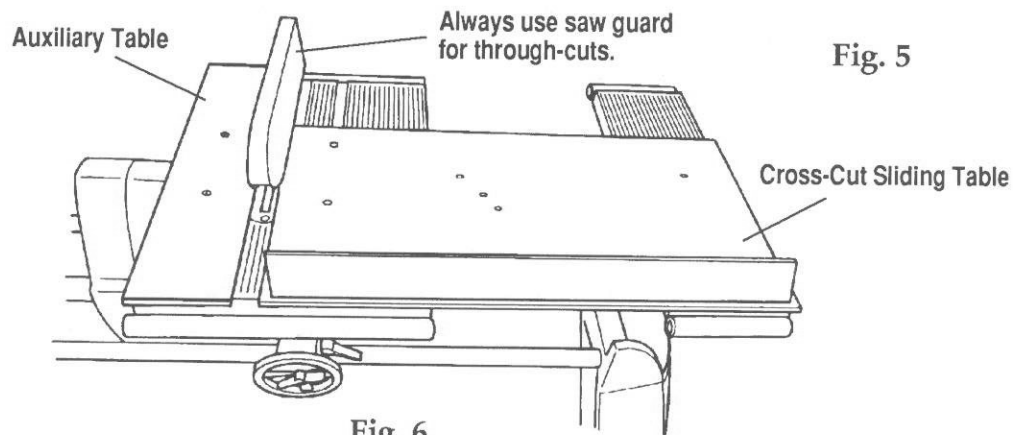

Fig. 6
6. Fig. 6 illustrates the Auxiliary Table set up with the Cross-Cut Sliding Table.